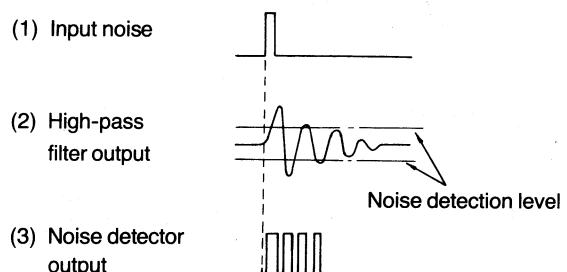

Fig. 24 Pulse Noise Wave Form
When pulse-like noise passes through the high-pass filter, the low-frequency range is attenuated and the output signal waveform from the high-pass filter becomes (2) in Fig. 24.
The noise detector detects this signal at a level higher than the noise detection level, and, for pulse amplification, the output becomes pulse lines such as shown (3) in Fig. 24.